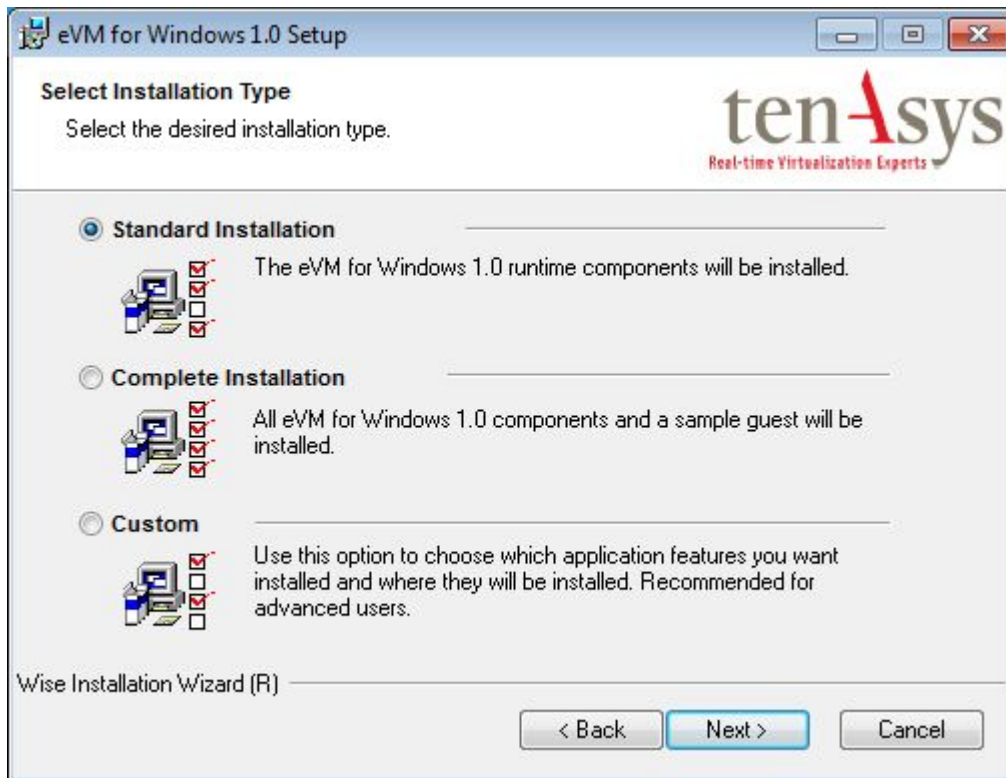

Figure 4.7 - Choosing Standard Installation Type
7. Select the type of installation that you would like. If you choose *Standard Installation*, Figure 4.7, eVM will be installed with virtual port support. If you choose *Complete Installation*, Figure 4.8, eVM with virtual port support, all the utilities, and a sample guest OS, iRMX will be installed. You can also choose a custom installation. After selecting the installation type, click **Next** to continue.